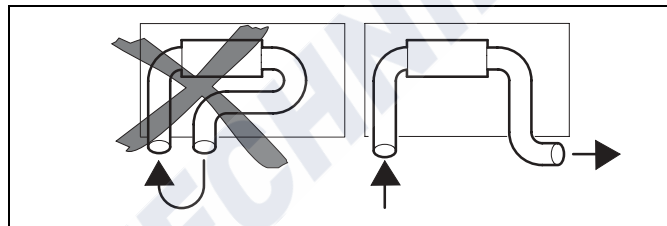

Fig. 8: Hot air inlet and hot air outlet
- Air short circuit between the heater's air inlet and the heater's air outlet (Figure 8).